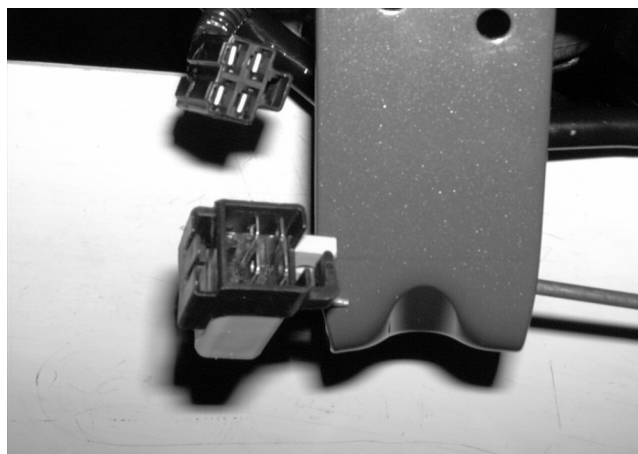

FIGURE 3.
- 3). Remove the brake safety switch from the wiring harness connector. See figure 3.